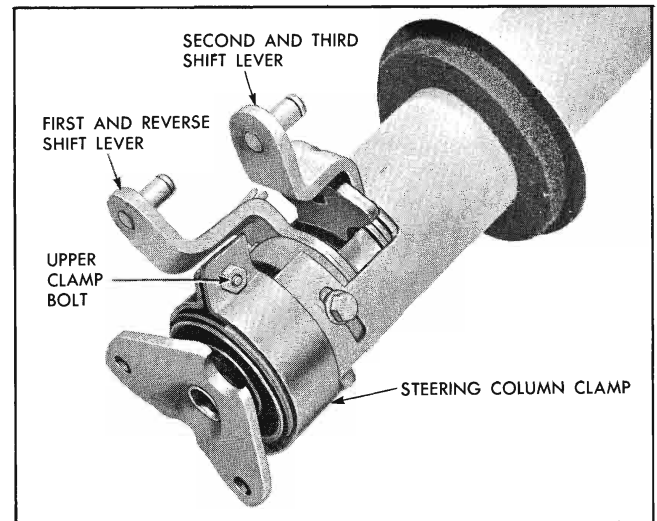

Fig. 9-24 Shifter Lever Identification
17. Connect first and reverse shifter rod to lower lever and second and third shifter rod to upper lever at steering column (Fig. 9-24).